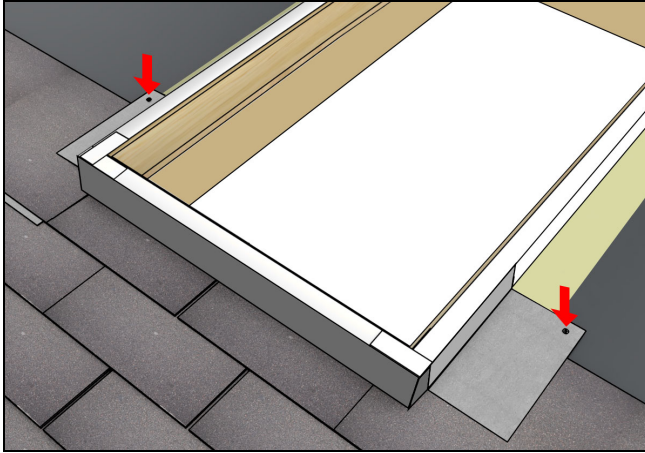
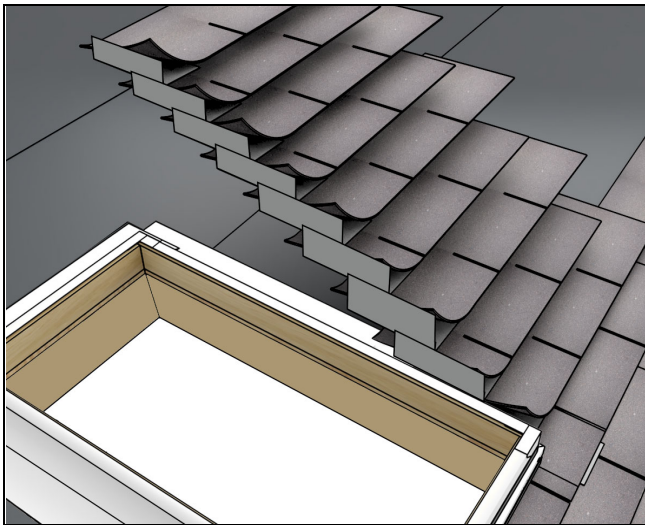

Figure 37
Figure 38
9. Place the second step flashing as shown in Figure 37. Align with bottom of shingle. Repeat steps until near the head jamb. See Figure 38.